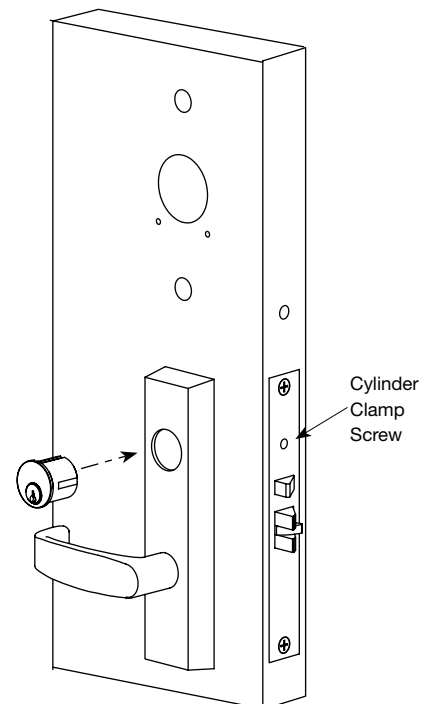

Fig. 6B
3. Tighten the cylinder clamp screw using #2 Phillips screwdriver to prevent the cylinder from unscrewing (Fig. 6B).